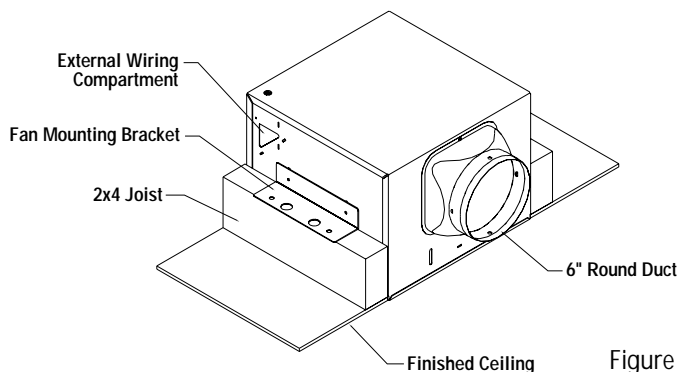
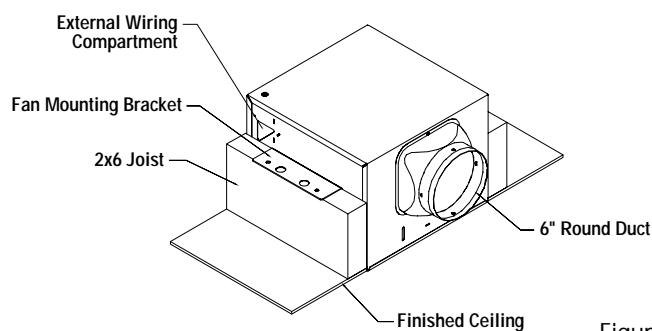
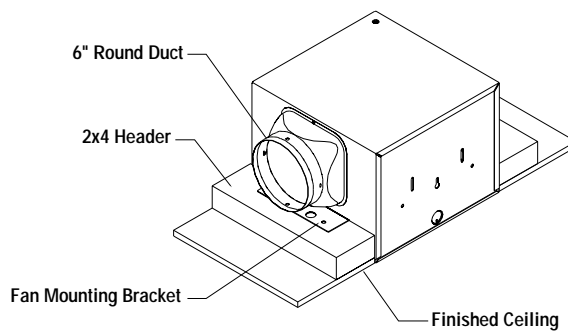

Figure 1
Figure 2
Figure 3
As an added convenience for installation, you do not have to remove the fan's blower assembly in order to install and wire this unit; you can gain access to the fan's wiring via the external wire compartment, shown in fig. 1. If you choose to wire from inside the fan housing, you will have to remove the fan's blower assembly and internal wiring compartment. The blower assembly is secured in place with 2 nuts (8-32).
Select the best location to mount the housing in the ceiling. This fan will require at least 10" of clearance in the ceiling or wall and will mount through drywall up to 3/4" thick. The fan housing can be mounted between 16" on center joists using the two supplied fan mounting brackets. Figure 1 shows housing installation on 16" on center 2x4 joists. Figure 2 shows fan mounting bracket orientation for mounting on 16" on center 2x6 joists (flip the fan mounting brackets.). Figure 3 shows the installation to be used if you have 24" on center joists; you must install 2x4 headers (not supplied) between joists, and install the fan mounting brackets on the front and back of the housing. Before cutting or drilling into any drywall, check the area from above to plan the unit's wiring and duct run. Remember to keep the number of elbows and duct length to a minimum.
5. Determine the required mounting orientation (fig 1, 2, or 3). Secure the housing mounting brackets to the top of the joists or headers.